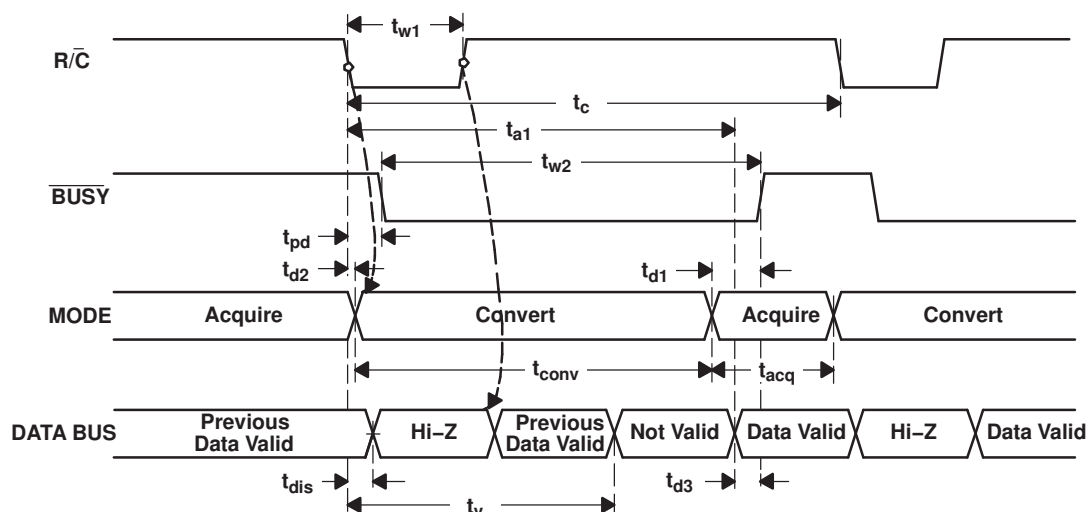
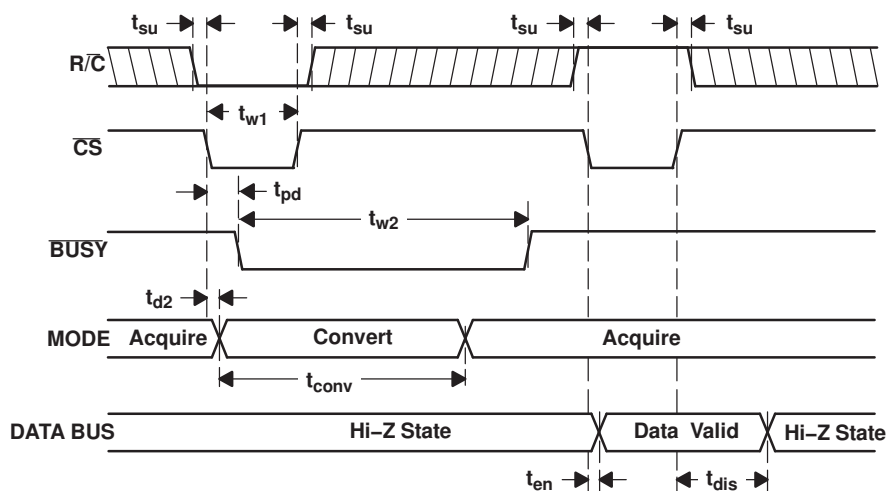
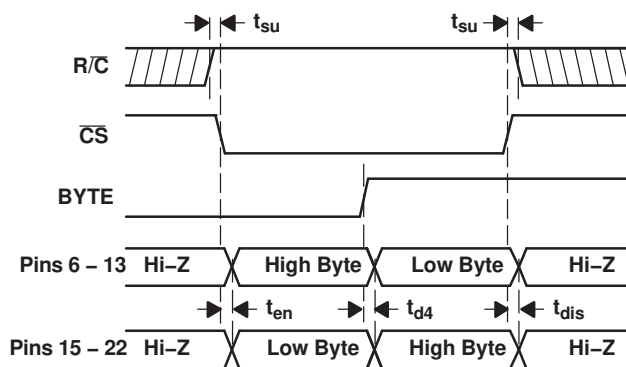

Figure 23. Conversion Timing with Outputs Enabled after Conversion ($\overline{CS}$ Tied Low)
Figure 24. Using $\overline{CS}$ to Control Conversion and Read Timing
Figure 25. Using $\overline{CS}$ and **BYTE** to Control Data Bus
The ADS8505 begins tracking the input signal at the end of the conversion. Allowing 4 μ s between convert commands assures accurate acquisition of a new signal. Refer to Table 1 for a summary of $\overline{CS}$, $R/\overline{C}$, and $\overline{BUSY}$ states and Figure 23 through Figure 25 for the timing diagrams.
(1) See Figure 23 and Figure 24 for constraints on data valid from conversion $n-1$.
After conversion n is completed and the output registers have been updated, $\overline{BUSY}$ (pin 26) goes high. Valid data from conversion n is available on D15-D0 (pins 6-13 and 15-22). $\overline{BUSY}$ going high can be used to latch the data. Refer to Table 3, Figure 23, Figure 24, and Figure 25 for timing specifications.
After conversion n has been initiated, valid data from conversion $n-1$ can be read and is valid up to t_2 (2.2 μ s typ) after the start of conversion n . Do not attempt to read data from t_2 (2.2 μ s typ) after the start of conversion n until $\overline{BUSY}$ (pin 26) goes high; this may result in reading invalid data. Refer to Table 3, Figure 23, Figure 24, and Figure 25 for timing specifications.
The number of control lines can be reduced by tying $\overline{CS}$ low while using the falling edge of $R/\overline{C}$ to initiate conversions and the rising edge of $R/\overline{C}$ to activate the output mode of the converter. See Figure 23.